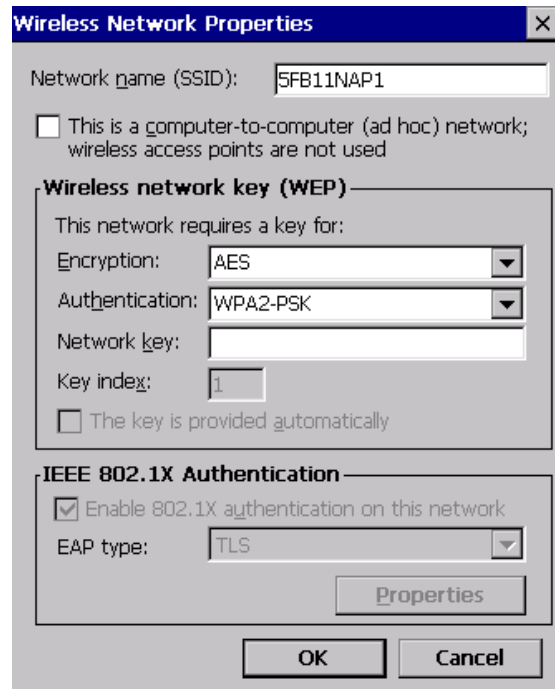

Figure 4-21: Wireless Network Properties
Step 3: The Wireless Network Properties screen appears. (**Figure 4-21**). Input the password into the Network key. Click **OK**.